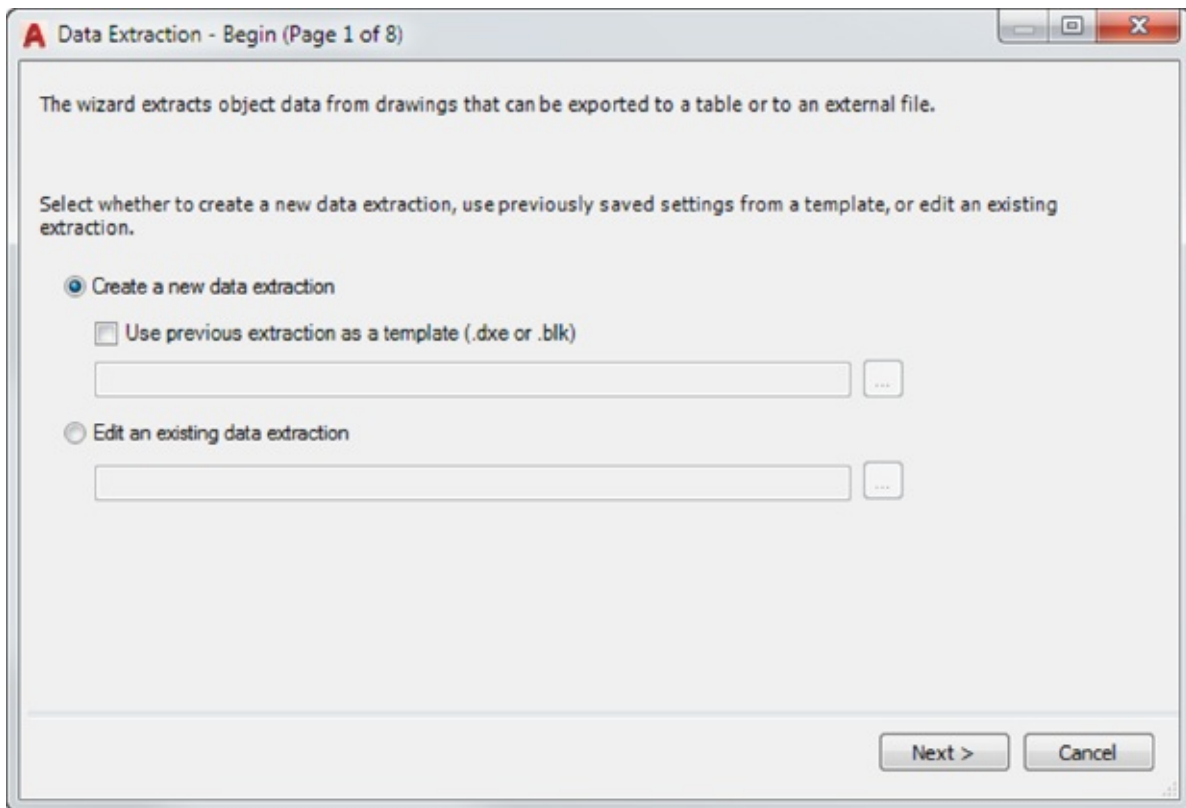

FIGURE 12.14 Starting the Data Extraction Wizard
1. Go back to the P1an.dwg file, and click Data Extraction in the Insert tab's Linking & Extraction panel. On the Begin page (see Figure 12.14), you can choose to start an extraction from scratch or use an existing data-extraction setup that you've created from previous extractions.